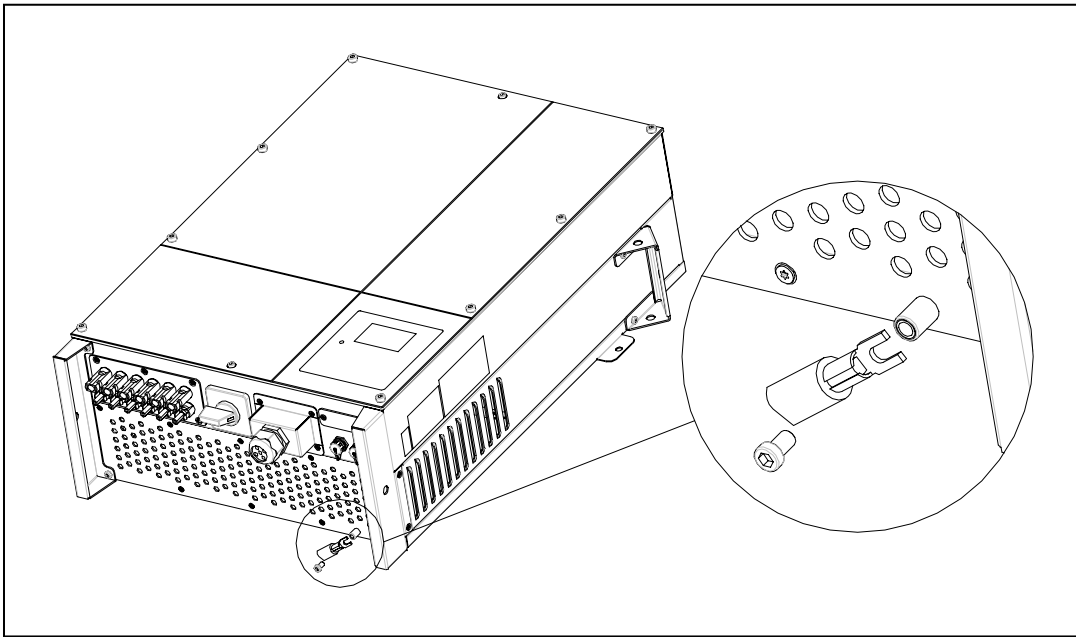

Fig 3.6
- Connect the inverter to the earth. Please reference in Fig3.6.